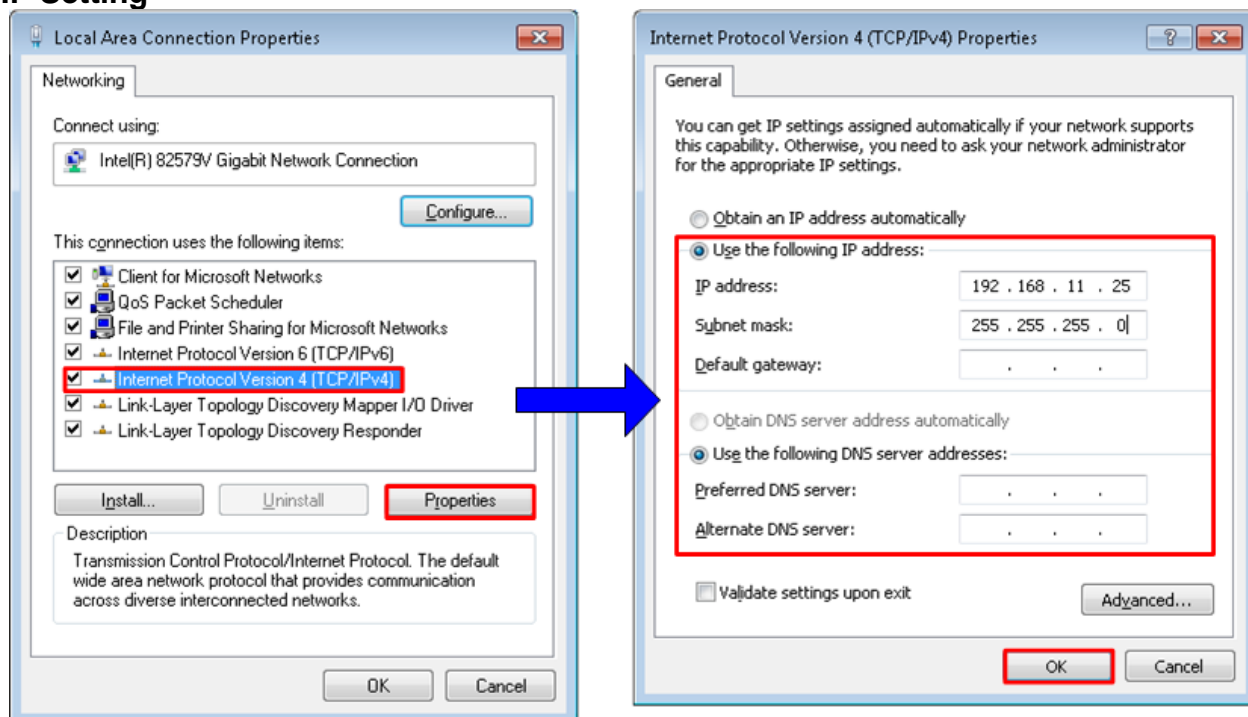

Figure 3-1 IPv4 Setting
- Open Local Area Connection Properties of test connection, as shown in the left window of Figure 3-1.
- Set IP address = 192.168.11.25 and Subnet mask = 255.255.255.0, as shown in the right window of Figure 3-1.